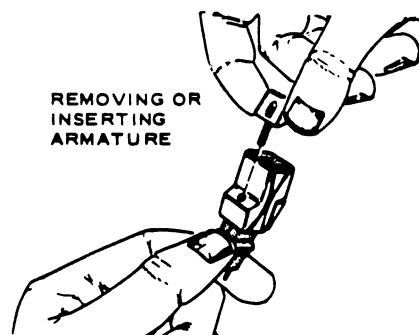

Figure 21B. Armature Replacement
4. Remove either armature by gripping the edges of the armature using the thumb and forefinger. Light pressure in the direction away from the stylus point will slide the armature out of the cartridge slot. See Figure 21B.